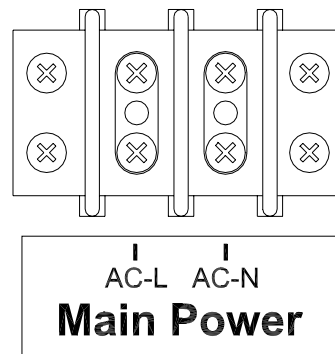

Figure 8 Power Connections
3. Connect the power cable wires to **Main Power** terminal block on the junction chassis according to figure 8.